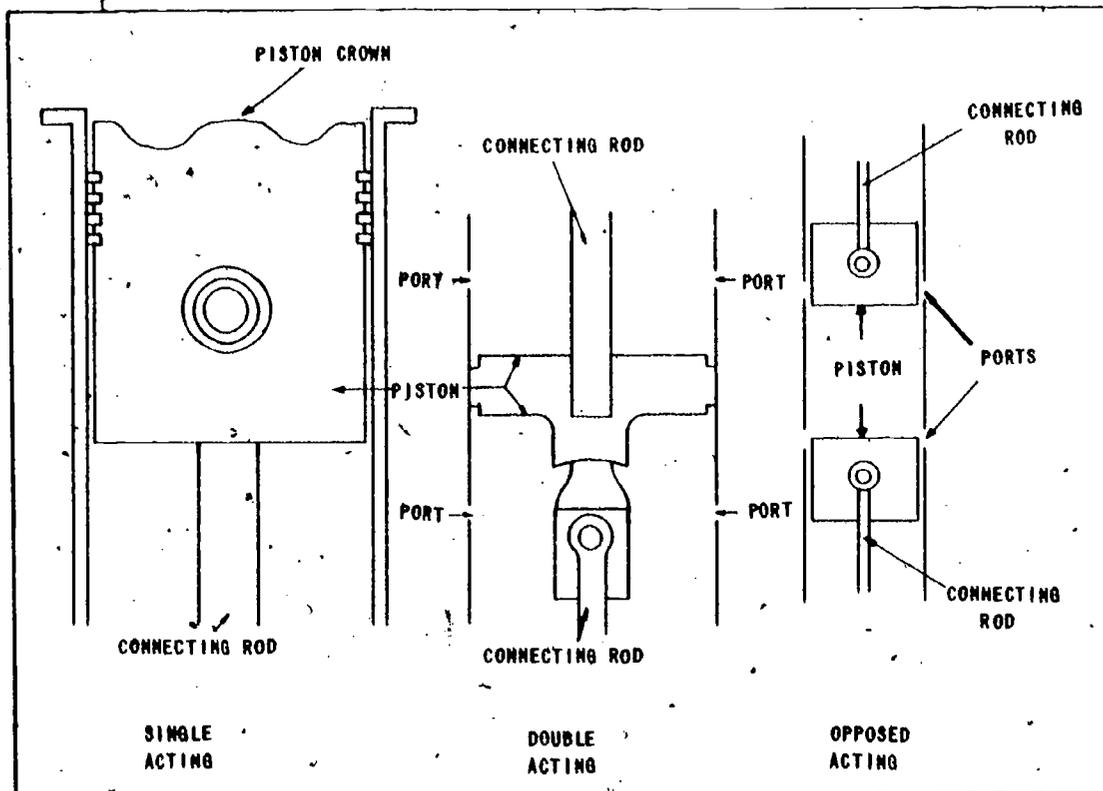

Fig 2-2. Piston actions.
- (1) **Operating cycle.** Internal-combustion engines operate on either a 2- or 4-stroke cycle. This means that a piston moves from one end of the cylinder to the other (top to bottom-bottom to top) two or four times for a cylinder to complete a cycle. When a piston has moved from one end of the cylinder to the other (up or down), it has completed one stroke, but only a portion of the cycle. A cycle is the chain of events that occur to get the air and fuel into the cylinder, compress it, burn it to produce the power, and then expel the exhaust. The chain of events is the same for all internal-combustion engines, but the number of strokes required to complete a cycle may be either two or four.
- (2) **Piston action (fig 2-2).** An engine can be classified as single-acting piston engine, double-acting piston engine, or opposed piston engine. A single-acting piston engine uses only one end of the piston (the crown) to receive the force of the expanding gases. A double-acting piston engine uses both ends of the piston to receive the forces. The opposed piston engine is constructed with two pistons in one cylinder. The engines in Marine Corps engineer equipment are single acting piston type.